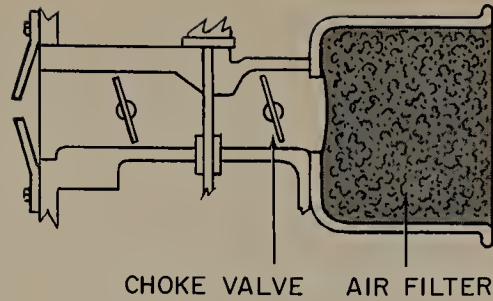

FIGURE 8.9 The choke valve is located between the air filter and the venturi.
8.9 Choke Valve. The choke valve is located between the air filter and the carburetor venturi (Fig. 8.9). Its purpose is to help start the engine. During starting, especially when the engine is cold, only part of the gasoline will evaporate to form a combustible mixture. This means that the carburetor nozzle must deliver more gasoline to the air passing through. The choke valve has this job. The choke valve is a round plate, like the throttle valve. When the choke valve is closed, it partially blocks the air horn so that less air can get through. This produces a partial vacuum in the air horn when the engine is cranked and the piston pulls air from the air horn. This partial vacuum, added to the vacuum caused by the venturi, results in a greater vacuum at the fuel nozzle so that more fuel feeds from the fuel nozzle and the resulting mixture is enriched. After the engine starts, the choke valve must be opened to prevent delivery of an excessively rich mixture to the running engine.